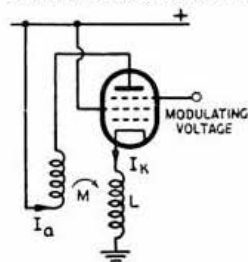

Fig. 5.
A completely new type of frequency modulated oscillator has been described recently by K. C. Johnson (7). This would appear to have many advantages for use as a local oscillator in panoramic receivers because the frequency range may be large, without associated amplitude changes, and the circuit can probably be made to work at quite high frequencies. Further, the reactor valve and oscillator are combined, thus saving a valve. The principle of this circuit can be seen from Fig. 5. It depends upon